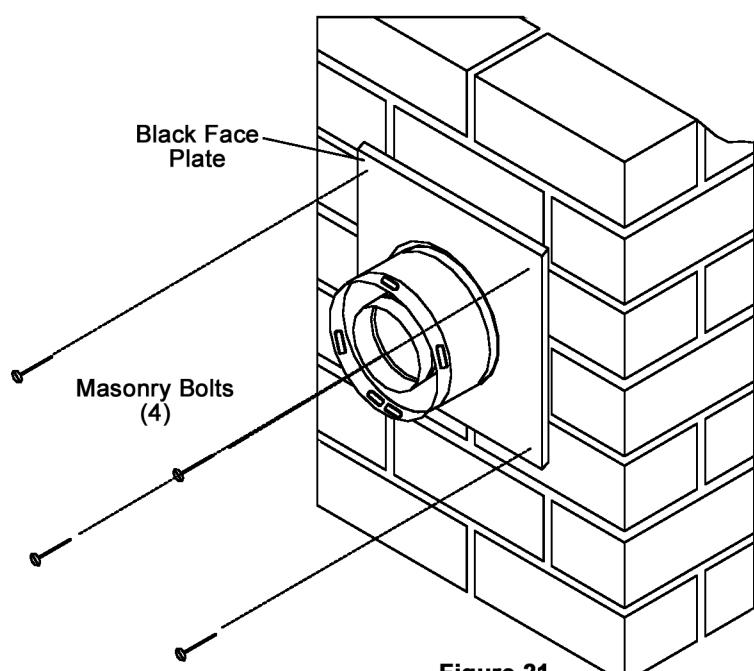

Figure 21
26. Push the whole assembly against the masonry and attach the Face Plate to the masonry with masonry bolts. See Figure 21.